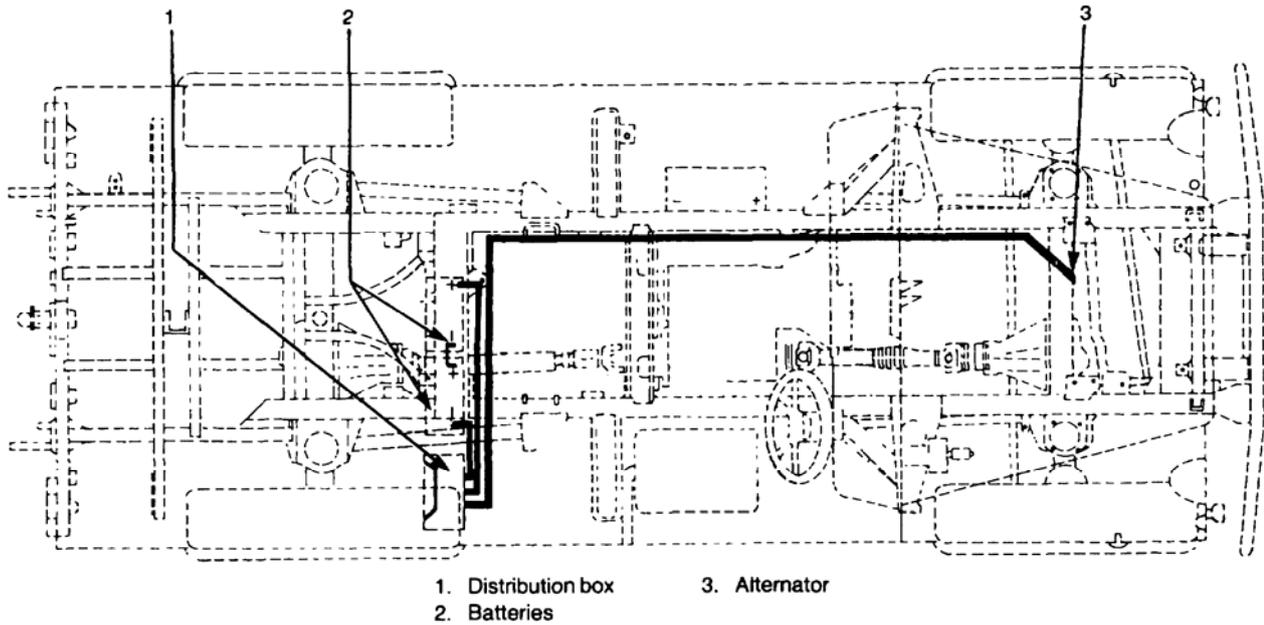

Figure 6 Rear Wiring Harness (FFR)
- e. The layout of the rear wiring harness for a vehicle fitted for radio is shown in Figure 6.